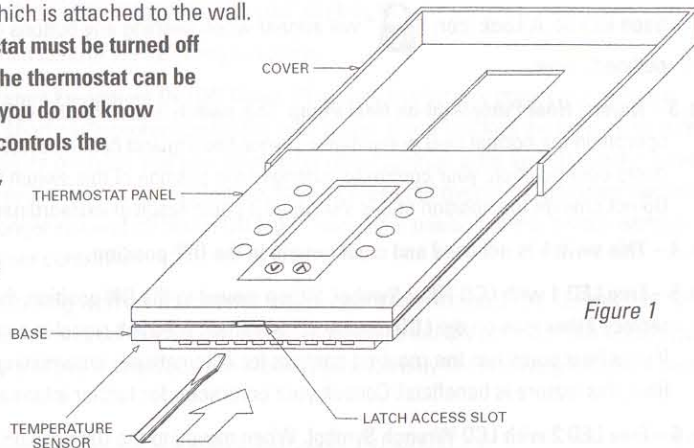

Figure 1
- Carefully insert a medium-sized flathead screwdriver into the latch access slot (see Figure 1).